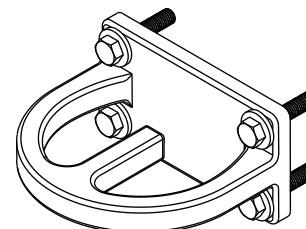

Figure 2: OEM Tow Hook Assembly
2. Before raising hitch into position insert provided fasteners through tow hooks as shown in Figure 2.